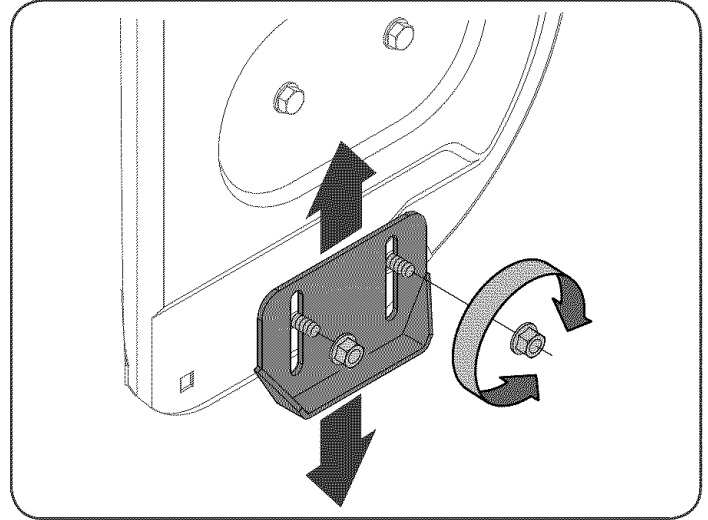

Figure 11
2. Loosen the four hex nuts (two on each side) and carriage bolts. Move skid shoes to desired position. See Figure 11.